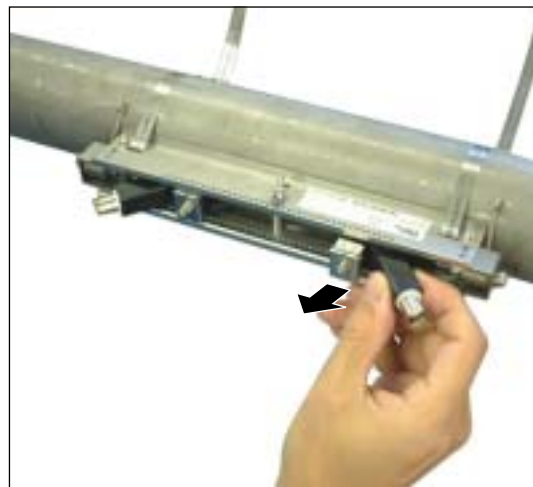

Fig. 3-42
- (4) Making sure claws have been disengaged from both sides, and pull out the sensor unit from the frame (Fig. 3-42).